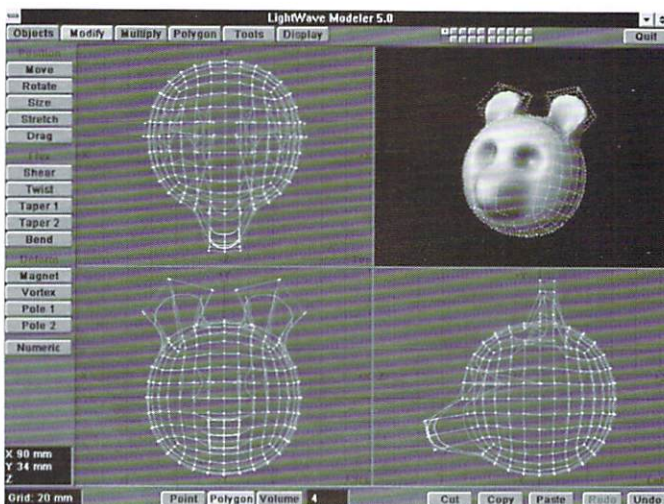

Figure 3
- Next, we'll want to pull out some polygons to form the bear's "muzzle." Grab the four polygons that would form the front face of the muzzle (Figure 3).